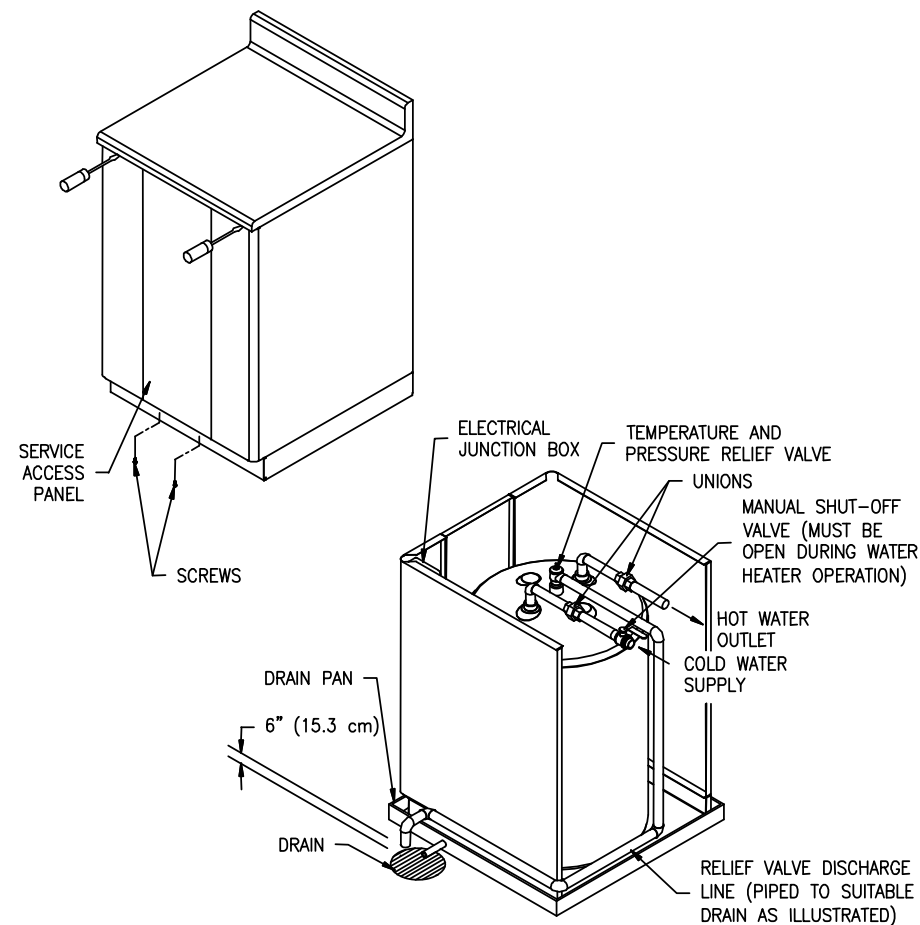

Figure 3
**Table Top Models (See Figure 3)** The hot water outlet and cold water inlet are identified on the back panel of the water heater. Referring to figure 3, remove the two screws that are holding the service access panel in place. Remove front panel for access. Wedge a flat bladed screwdriver into the front joint between the top and side panels and force the top panel upward. This will separate the top panel from the water heater and allow further access to the water heater.